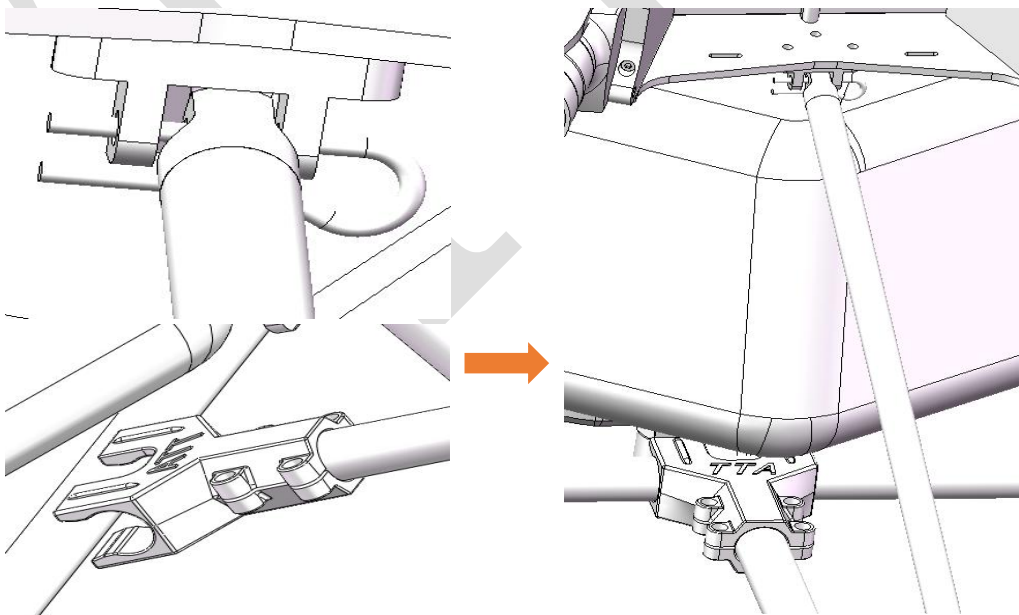

Figure 3-5 Sprayer supporter connection effect picture
Step 1: connect the sprayer and its connector,see figure3-5.